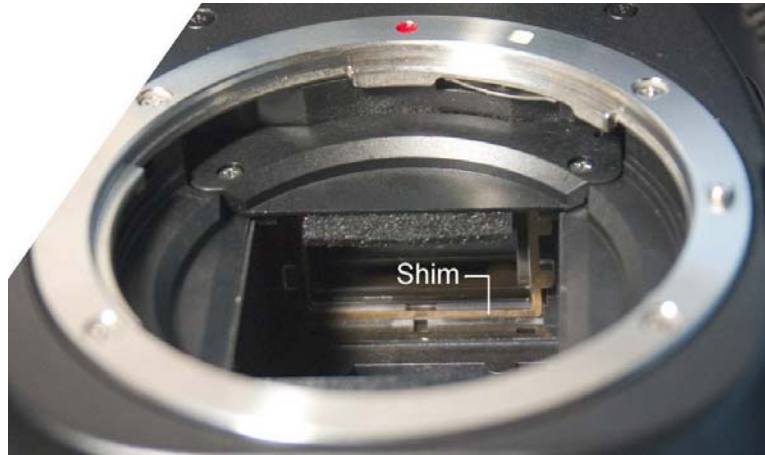

Figure 6. Shim position
35. Figure 6 shows the proper position of the shim.